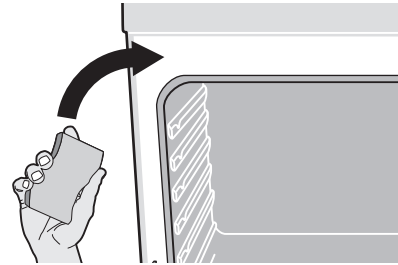

Figure 37: Clean around the oven door gasket
9. Wipe oven cavity and bottom. Do not clean oven door gasket (Figure 37). Avoid leaning or resting on the oven door glass while cleaning cavity.